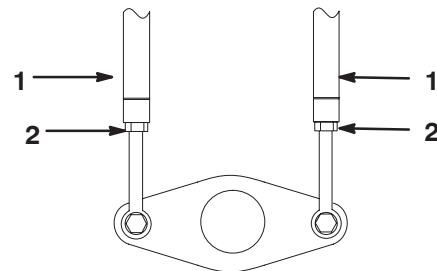

Figure 39
3. Loosen the jam nuts on the traction rods, under the control panel (Fig. 39).